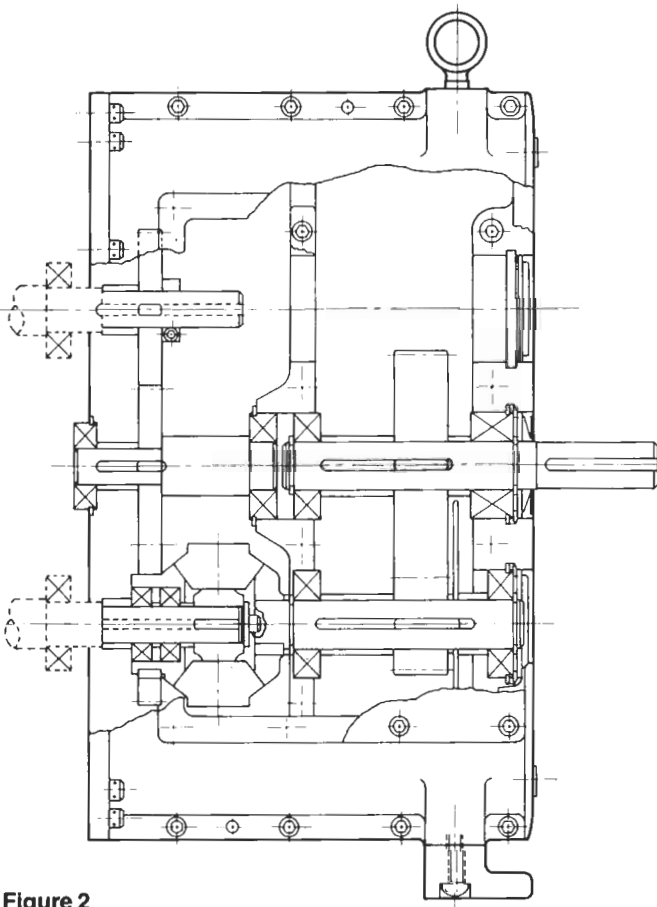
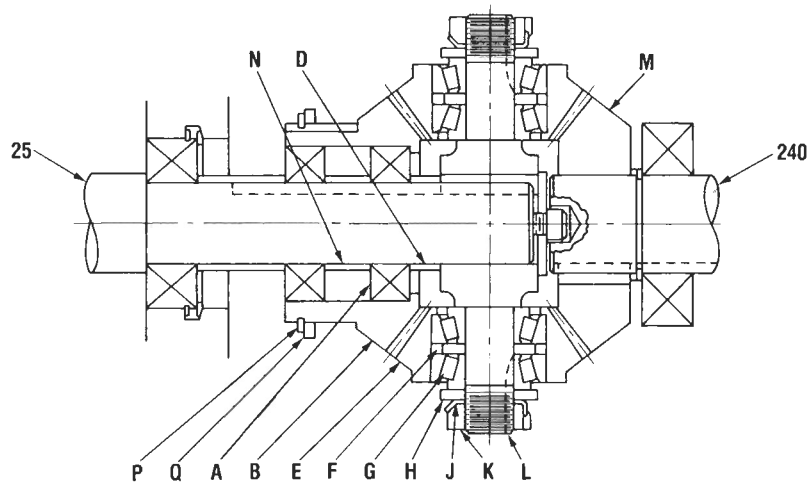

Figure 2
Figure 3
Figure 2 is a typical MD assembly. Assembly and disassembly of the differential transmission involves procedure for
1. Spider Assembly (Figure 3)
- A. Push tapered roller bearing (G) outer races with standard spacer (F) into each differential pinion. Note that the angles converge between the bearings.
- B. Press a tapered roller inner race onto both spider journals (L), the large end toward the center of the spider.
- C. Place pinion gears (E) on spider.
- E. Add hardened washer (H), lock washer (J), and lock nut (K) to both ends.
- A. The lash on the bearing-mounted side gear (B) is controlled by a spacer (D, Figure 3) between the inner ball bearing (A) and the spider. The need to change this spacer is unlikely. The table gives the backlash in inches for the assembled unit related to diametral pitch of the gear in the unit.
- C. The side gear (B) is then pushed on over the bearing's outer race.
- J. Recheck the fit using the spacer, then disassemble and repeat the mounting procedure on the actual input shaft (25 Figure 3).
3. Final Assembly (Figure 2)
- A. With the assembly to this point assembled in the housing, the bearing retainer holding the snap ring bearing bolted in place, the next step is the shaft mounted differential side gear (M) first assuming the gear to be too long.
- B. Press the gear onto its shaft (240 Figure 3) journal firmly against the shaft shoulder with the shaft bearings in their positions.